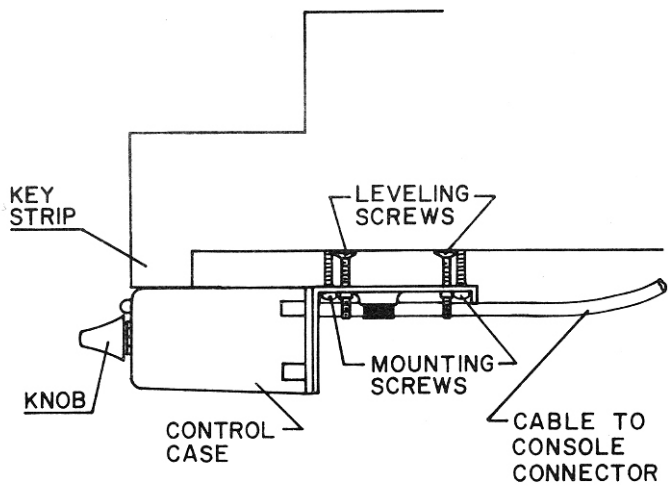
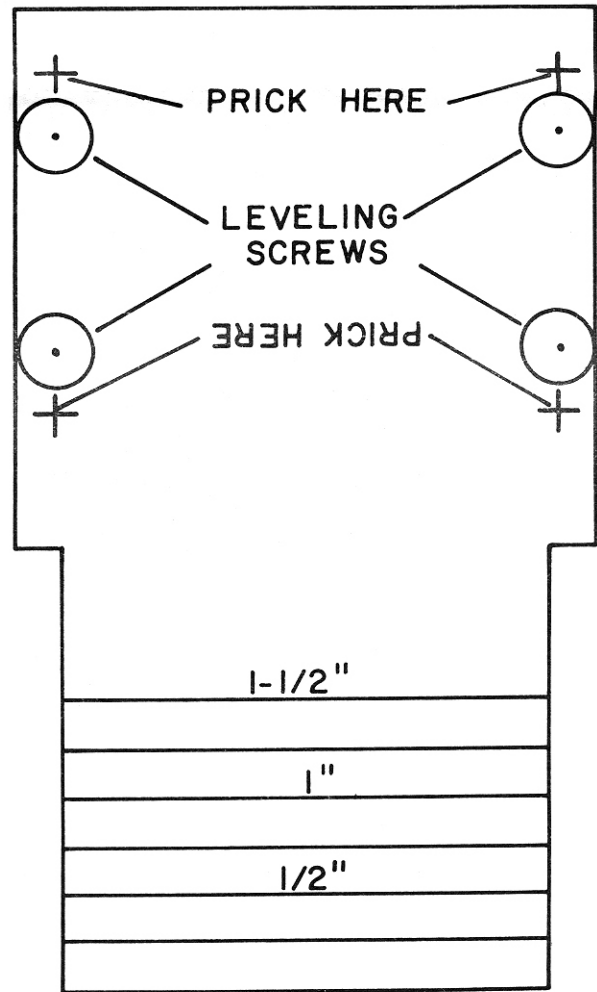

Figure 1. Control Mounted on Organ
Figure 2. Control Location and Mounting Pattern
CONTROL MOUNTING (Figures 1, 2)
- 3.** Indicate the control location on the under side of the shelf. Cut out the paper pattern (figure 2) provided in this instruction sheet.
6. Put the four leveling screws (flat-headed machine screws) into the holes indicated in figure 2, **WITH THE HEADS UPWARD**. Place the control mounting bracket in position at the location marked for mounting. Adjust each of the four leveling screws so that the control is positioned just below the keybed, and is level. See figure 1.